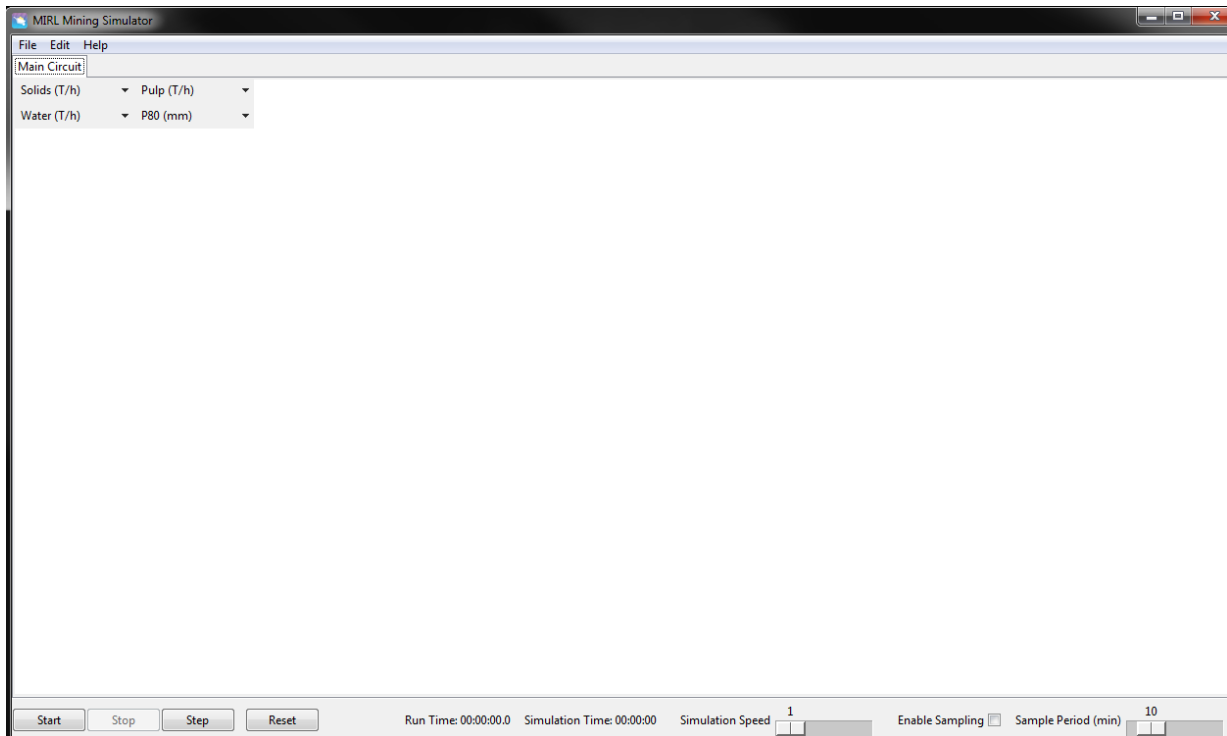

Figure 1: Drawing Canvas
- a. Selecting the icon by clicking on icon you want to move. Upon clicking, the icon gets highlighted and green “+” sign appears (*Figure 1*Figure 3).